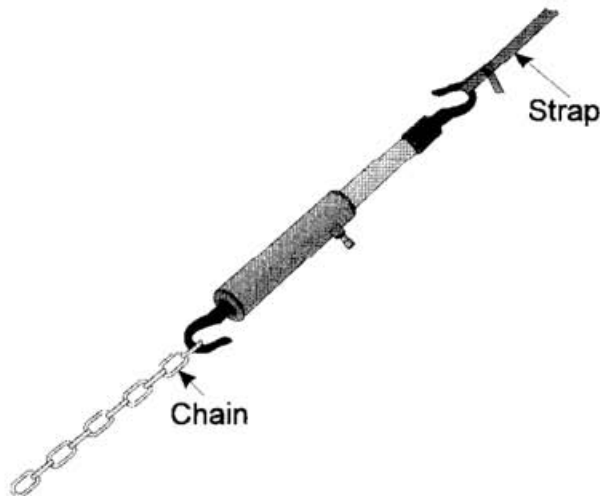

Figure 3 -- Connecting Chain and Strap
Step 2: Hook one end of the Pull-Back Ram to the object to be moved and the other end to a stable unmovable base as shown in Figure 3. A chain or strap may be used on either side to provide a hooking surface. Make sure the chain or strap is rated to support the pulling weight.